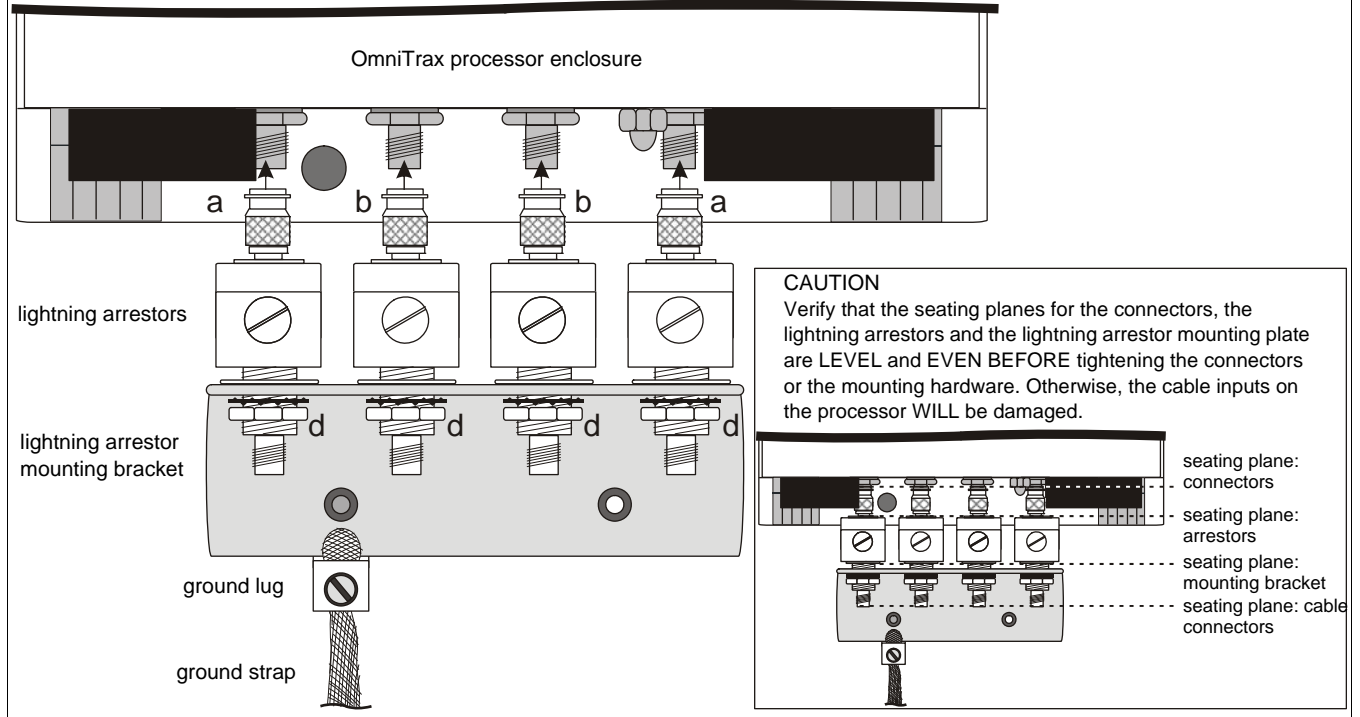

Figure 161: Connecting the lightning arrestors to the processor
4. Connect the lightning arrestors to the processor (see Figure 161).
- Refer to Figure 161: to disconnect the lightning arrestors from the processor (turn each lightning arrestor connector a few turns in sequence).
8. Refer to Figure 161: to reconnect the lightning arrestors to the processor.